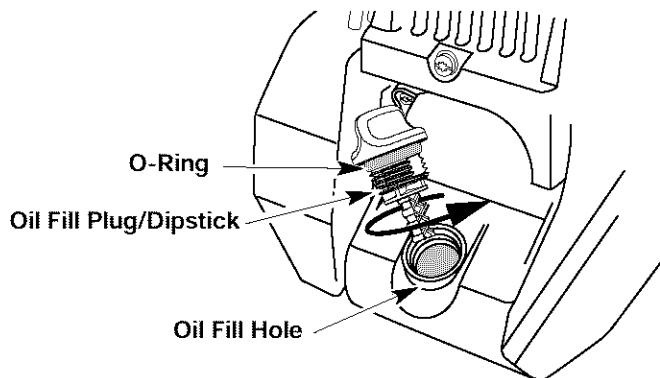

Fig. 32
6. If the level is low, add a small amount of oil to the oil fill hole and recheck (Fig. 32). Repeat this procedure until the oil level reaches the top of the dipstick.
NOTE: Make sure the O-ring is in place on the oil fill plug/dipstick when checking and changing the oil (Fig. 32).